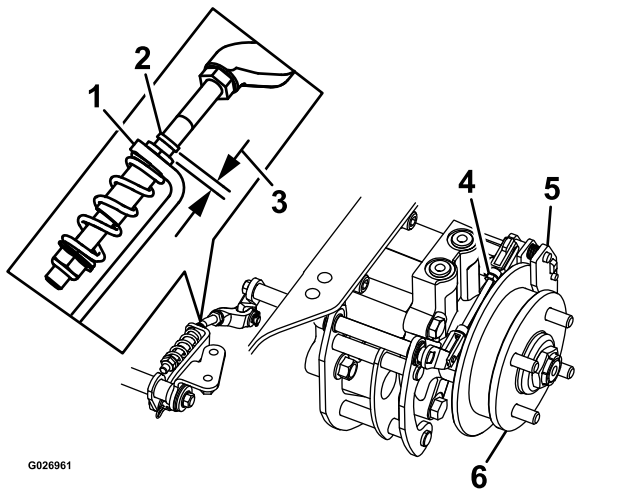

Figure 80
8. Check if there is a visible gap between the L-bracket and the linkage stop (Figure 80).